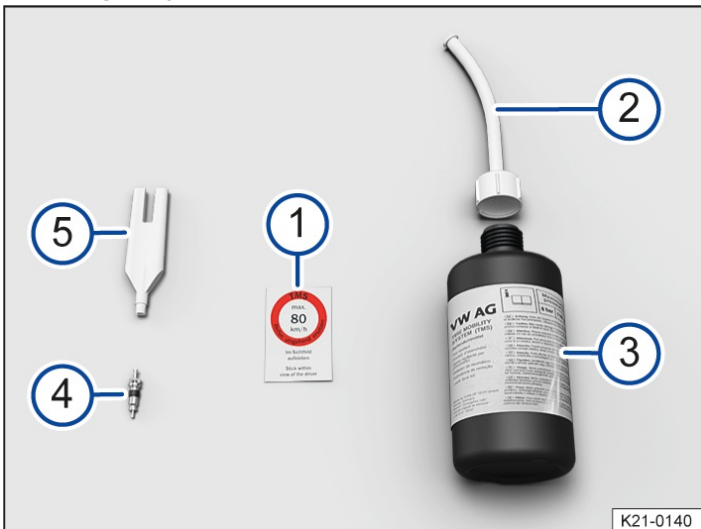

Fig. 1 Contents of the breakdown set(illustration).
- ① Sticker with the maximum permitted speed "max. 80 km/h" or "max. 50 mph".
- ② Tyre sealant tube with plug.
- ③ Tyre filler bottle.
- ④ Spare valve core.
- ⑤ Valve core extractor.
There is a slot for the valve core on the lower end of the valve core extractor → Fig. 1 ⑤. This is required for extracting the valve core from the tyre valve and then screwing it back into the valve again. This also applies to the spare valve core ④.
1. Take the sticker from the breakdown set → Fig. 1 ① and stick it on the dash panel within the driver's field of vision.
3. Use the valve core extractor → Fig. 1 (5) to unscrew the valve core from the tyre valve. Place the core on a clean surface.
4. Shake the tyre filler bottle → Fig. 1 (3) vigorously to and fro several times.
5. Screw the tyre sealant tube → Fig. 1 (2) tightly onto the tyre filler bottle in a clockwise direction. The seal on the top of the bottle is pierced when doing so.
6. Remove the plug from the filler hose → Fig. 1 (2) and place the open end fully on the tyre valve.
9. Use the valve core extractor → Fig. 1 (5) to screw the valve core back into the tyre valve.